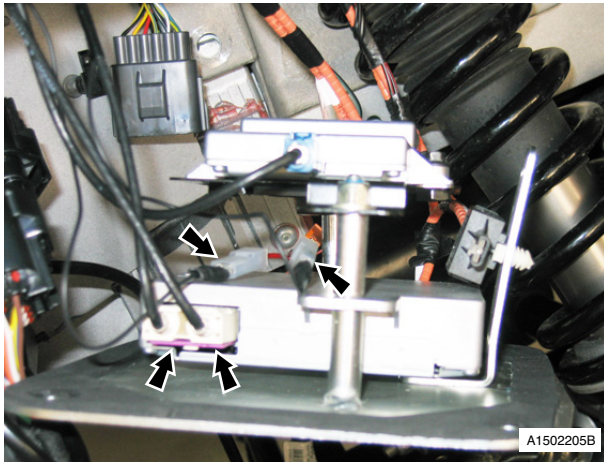

Fig. 3
7. Disconnect antenna multiplugs (x4) from tuners (see Fig. 3).